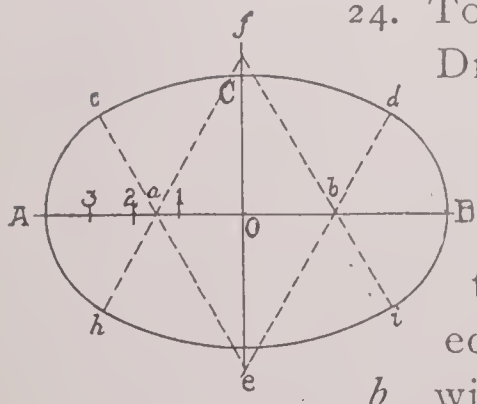

Fig. 24
24. To draw an ellipse by means of circular arcs (Fig. 24):